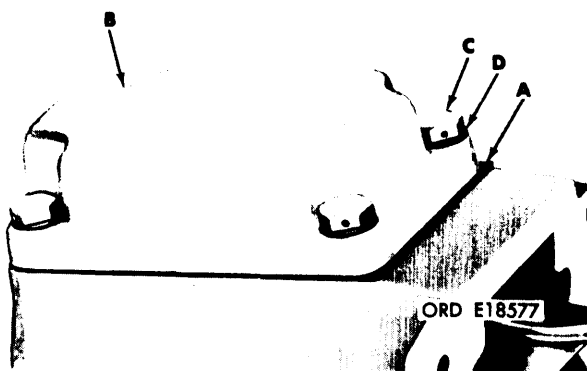

Figure 3-158. Installing governor cover (code G pumps).
(3) Refer to figure 3-158. Install governor cover gasket (A) and governor cover (B). Secure cover with four machine screws (C) and lockwashers (D). Torque tighten screws to 50-60 inch-pounds.